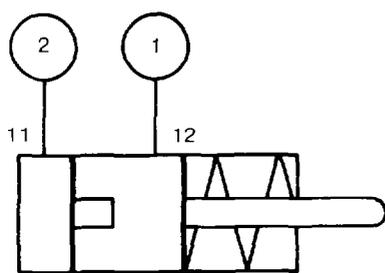

Figure 83 Test Connections
- a. Connect the master cylinder to the test rig as shown in Fig 83.